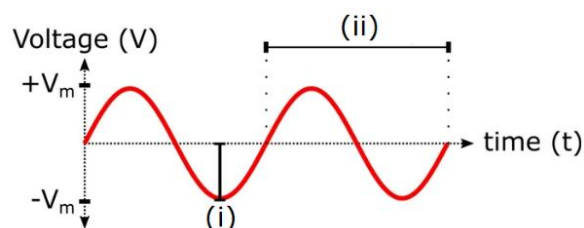

Figure 10 – Signal Parameters
- b) Define the **TWO** parameters of the signal shown in Figure 10 and identified as (i) and (ii). Name the parameters in the space provided and define their SI units.